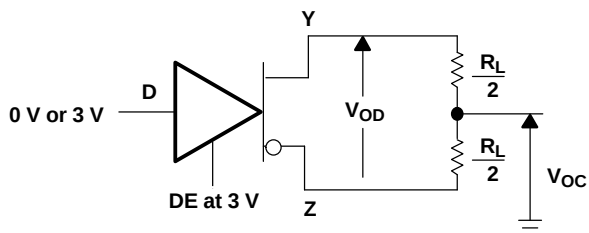

Figure 1. Differential and Common-Mode Output Voltages
| $ V_{OD} $       | Differential output voltage magnitude (2)              | $R_L = 54 \Omega$ ,See <a href="#">Figure 1</a>       | SN65LBC180       | 1.1 | 2.5                | 5         | V             |
| $\Delta V_{OD} $ | Change in magnitude of differential output voltage (3) | See <a href="#">Figure 1</a> and <a href="#">Figure 2</a> |                  |     |                    | $\pm 0.2$ | V             |
| $V_{OC}$         | Common-mode output voltage                                        | $R_L = 54 \Omega$ ,      See <a href="#">Figure 1</a>     |                  | 1   | 2.5                | 3         | V             |